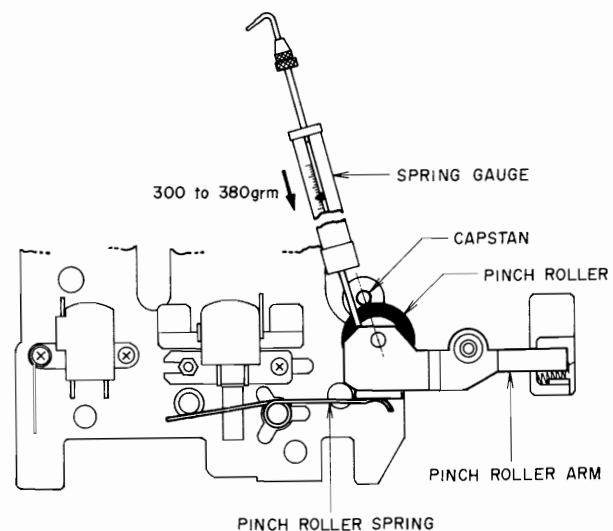

Fig. 11 Pinch Roller Pressure Measurement
2. PINCH ROLLER PRESSURE MEASUREMENT (Refer to Fig. 11)